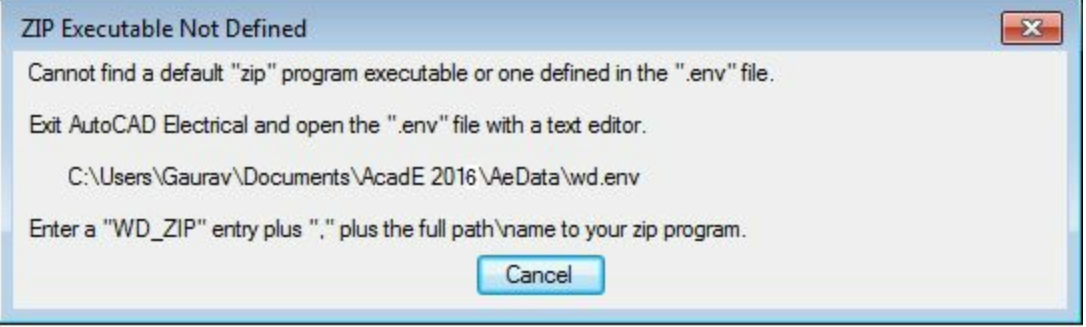

Figure-41. Error message
- Click on the **Zip Project** tool from the **Plot/Publish** drop-down in the **Project Manager**. If you are creating the zip file for the first time in this version of AutoCAD, then you will get the error message as shown in Figure-41.